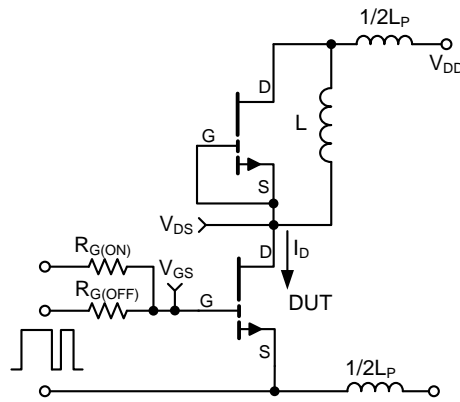

Figure 13: GS66516B Switching Loss Test Circuit
(8) See Figure 13 for switching test circuit.